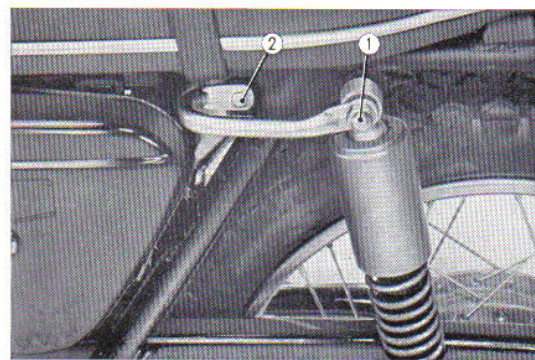

Fig. 4.67 Removing the rear cushion assembly
- ① 10mm cap nut
- ② 6mm bolt
1. Remove the 6mm bolt from the forward end of the side hand hold, loosen the 10mm cap nuts and remove the rear cushion assembly. (Fig. 4.67)